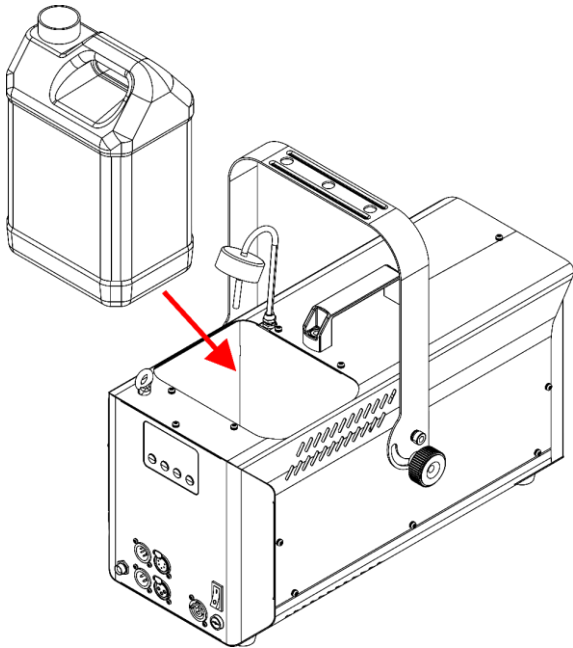

Fig. 18
- 07) Put the fluid tank back in the device, as shown in Fig. 18.